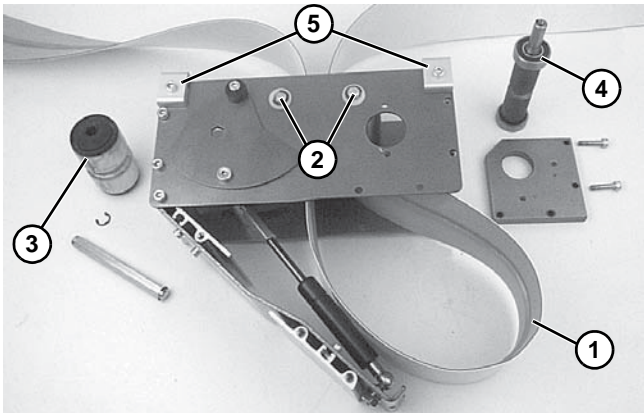

Figure 64
- Place loop of belt (Figure 64, item 1) into the drive module between top idler pulleys (Figure 64, item 2).
- Place grooved idler pulley (Figure 64, item 3) into the belt loop and install it in the drive module. Refer to “Belt Removal from Drive Module” on page 31 and reverse step 3.
- Place drive pulley (Figure 64, item 4) into the belt loop and install it in the drive module. Refer to “Belt Removal from Drive Module” on page 31 and reverse steps 1 and 2. Tighten screws (Figure 42, item 1) to 60 in-lb (6.8 Nm).
- Install the drive module onto the conveyor and attach clamps (Figure 64, item 5) in each corner. Tighten screws to 60 in-lb (6.8 Nm).